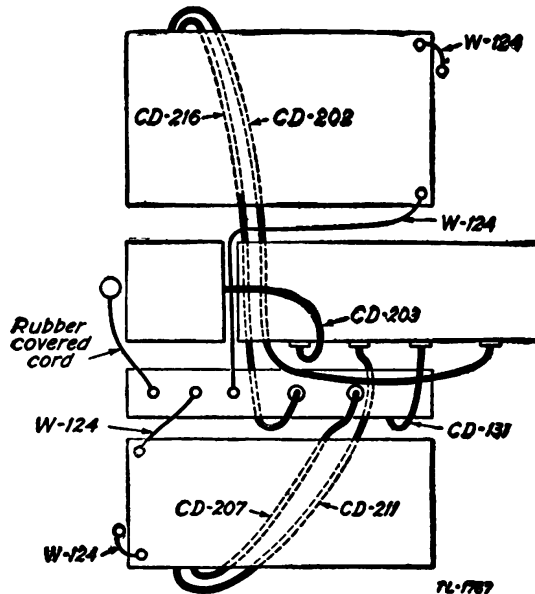

FIGURE 10.—Radio set SCR-203, top view of external cording and wiring.
(1) The cavalry division, brigade, and regimental nets for communication between and with those headquarters, supporting field artillery headquarters, scout cars, and observation airplanes.
(2) The field artillery net of the cavalry division for communication between and with its headquarters, the cavalry equipped with this set, and observation airplanes.
21. To assemble the set.—In mounting the parts on the frame, avoid the use of tools on latches, slides, binding posts, nuts, and plugs wherever possible. Before connecting plugs to sockets, inspect the attachment of the cords to the plugs. If the cord clamp appears loose, tighten the small knurled locking ring at the base of the plug by turning it *counterclockwise*. In connecting the plugs to the sockets, place the arrow stamped on the plug opposite the arrow stamped on the socket, thrust the plug into the socket, and lock it by turning the large knurled band of the plug *clockwise* and tightening it in the socket. Figure 10 shows the external cording and wiring of the set.
a. Transmitter.—(1) Face the panel, turn the ends of the two latches toward each other, pull the top of the panel forward, and hold it open with one hand.